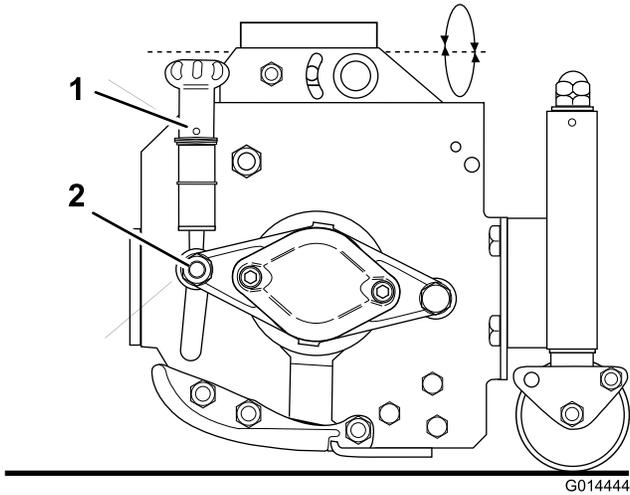

Figure 71
3. If adjustment is necessary proceed as follows, release the nut (Figure 71) a 1/4 turn on both ends.
4. Turn hand wheel (Figure 71) each end alternately whilst rotating the cutting cylinder backwards until the bottom blade is in fleeting contact with the cylinder along its entire length.
6. Tighten nut (Figure 71) both ends.